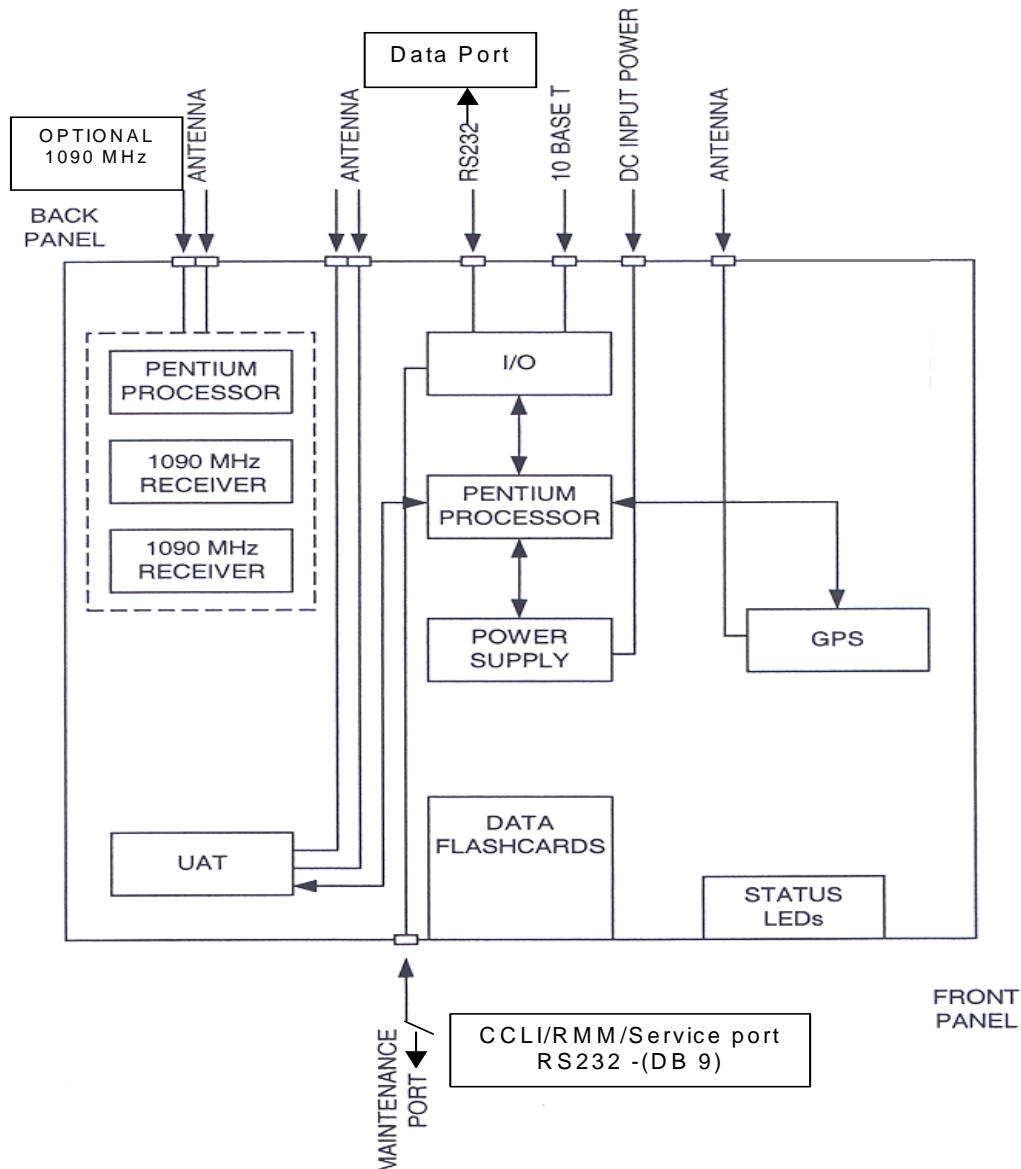
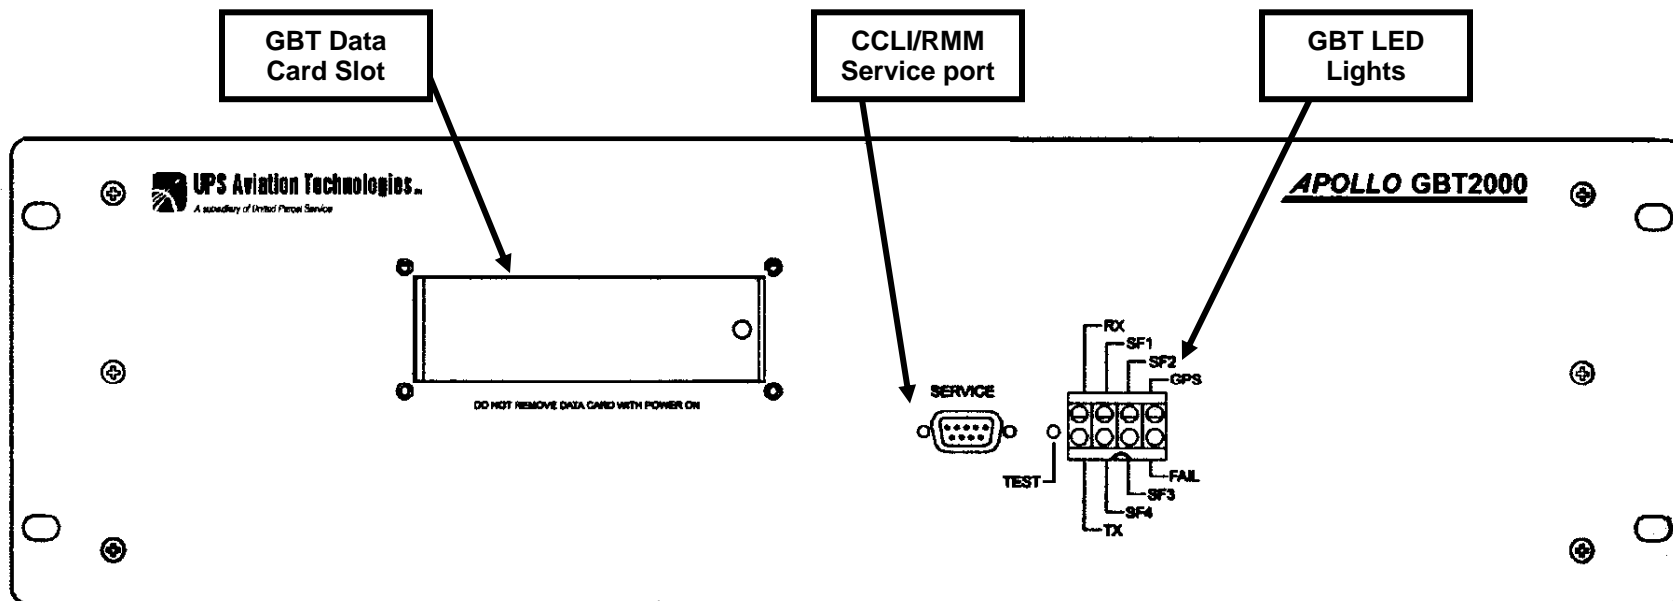
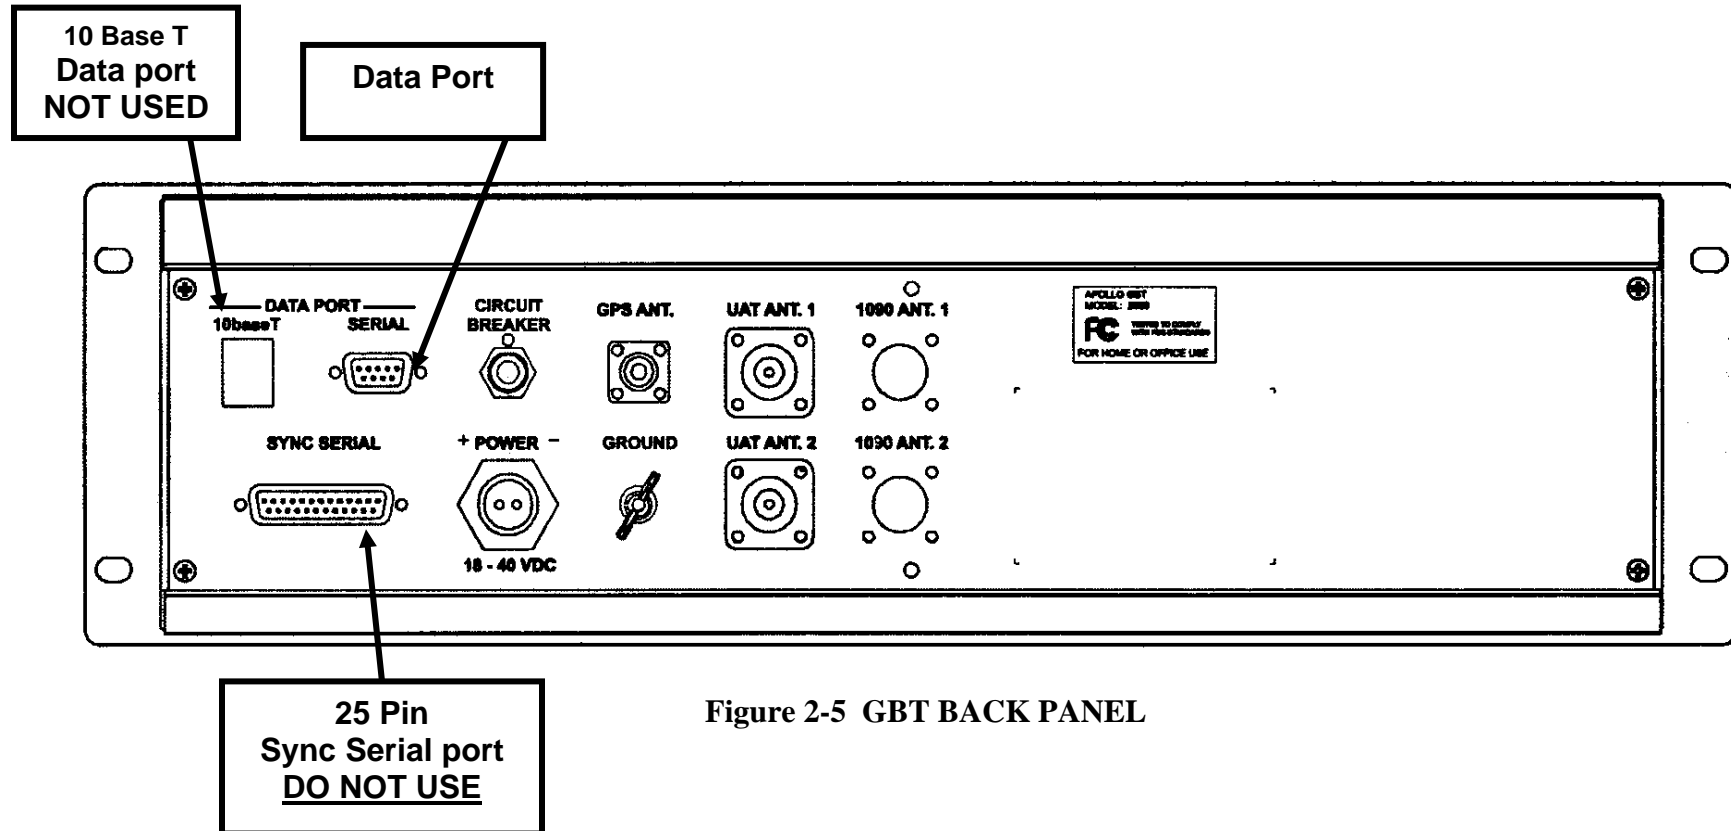

Figure 2-3 GBT FUNCTIONAL BLOCK DIAGRAM
Figure 2-4 GBT FRONT PANEL
Figure 2-5 GBT BACK PANEL
a. Ground-Based Transceiver. The GBT serves as the data interface providing serial or TCP/IP digital data to other ground equipment. It transmits and receives, providing an air-ground link for ADS-B information. Figure 2-3 is a functional block diagram of the GBT.
Figure 2-3 shows the functional block diagram of the GBT, Figure 2-4 shows a view of the front panel and Figure 2-5 shows a view of the back panel.
a. The RS232 SERIAL port (DB-9 connector) in the rear panel (Figure 2-3 & 2-5) is used for asynchronous serial data flow. The RS232 SERIAL port (DB-9 connector) on the front panel (Figure 2-4) is used for CCLI-RMM and on-site maintenance data access and command inputs. The SYNC SERIAL port (DB-25 connector, Figure 2-5)
b. The 10 BASE T (Figure 2-5) data port can be activated through a special software configuration but is NOT operational at this time in the GBT 2000.